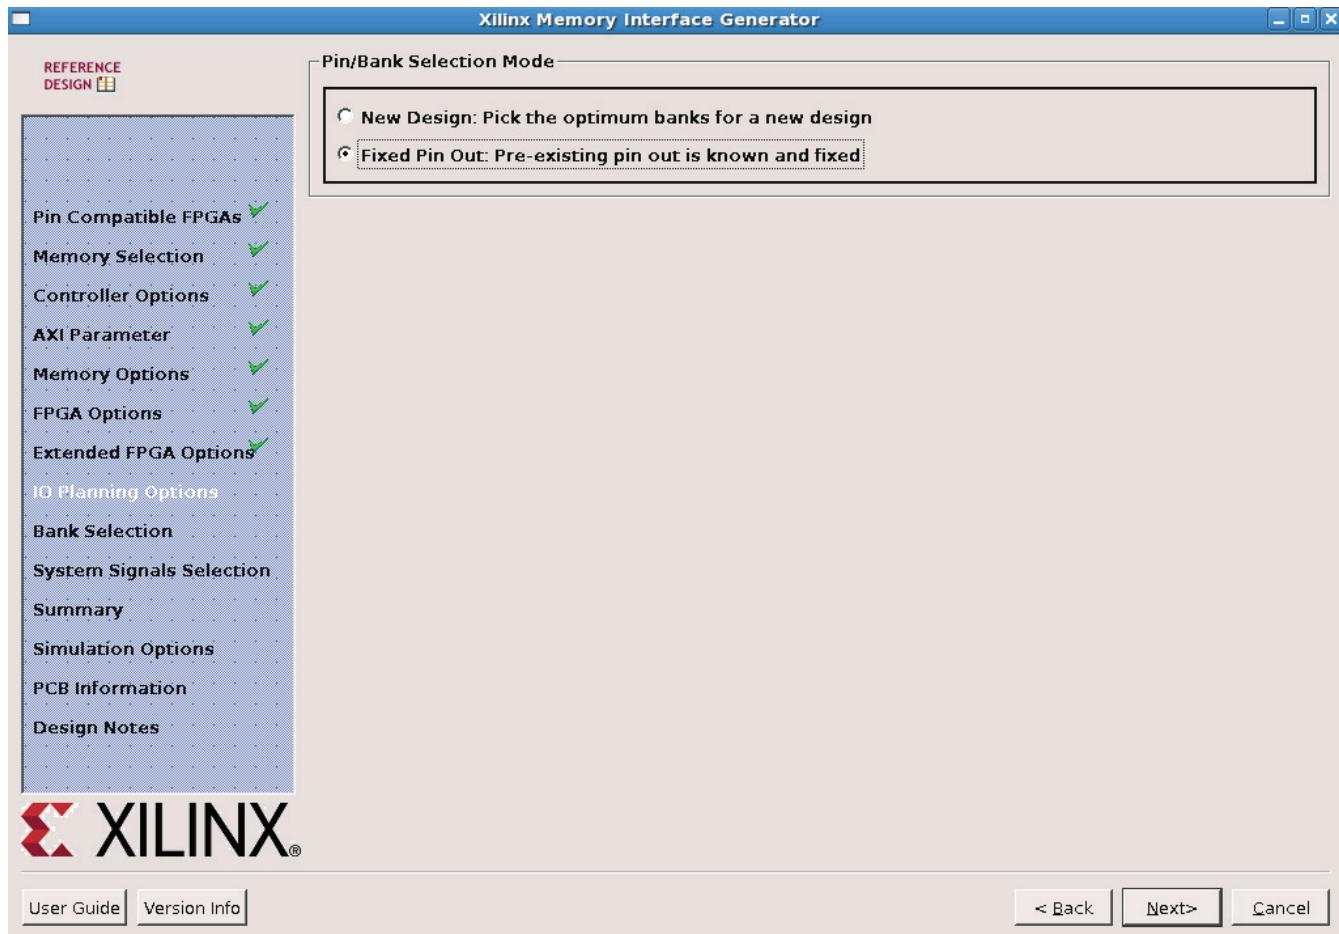

Figure 38: MIG I/O Planning Options
26. For Pin/Bank Selection Mode, select **Fixed Pin Out** and click **Next** (Figure 38). This allows the user to enter predefined pinout information for an existing board like the KC705.